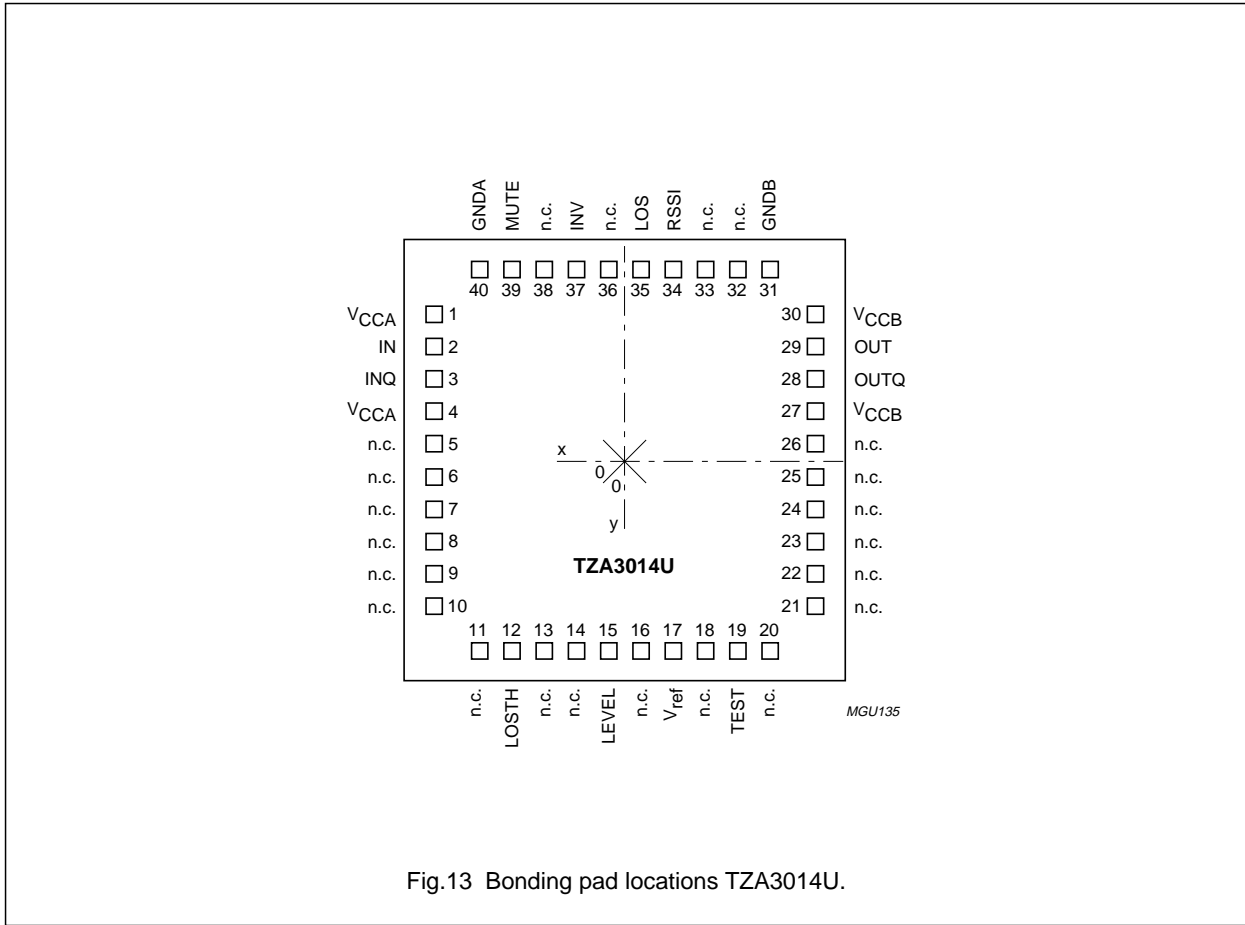

Fig.13 Bonding pad locations TZA3014U.
1. All x and y coordinates represent the position of the centre of the pad in  $\mu\text{m}$  with respect to the centre of the die (see Fig.13).